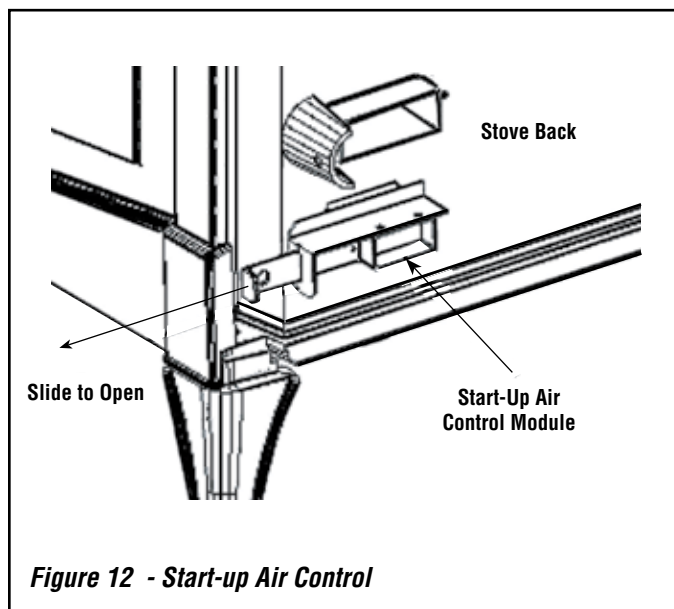

Figure 12 - Start-up Air Control
1. Using the air control tool open the start-up air control by pulling the lever outwards (see **Figure 12**).